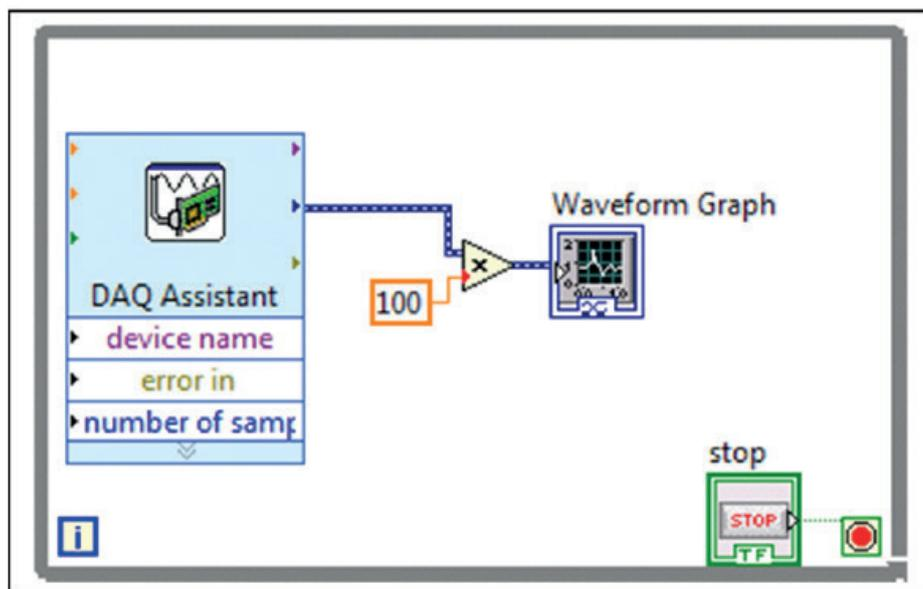

Figure-3
6) On the LabView Block Diagram screen, set up the exemplary circuit shown in figure-3.